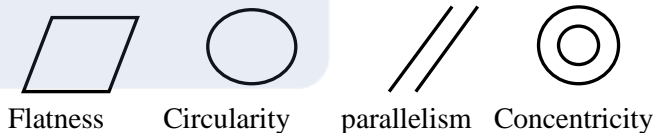

Figure 9
36. Identify the geometric tolerance of orientation in figure 9 below.